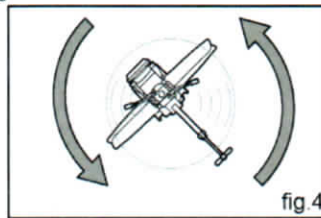
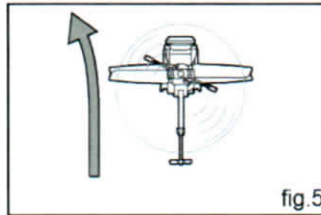
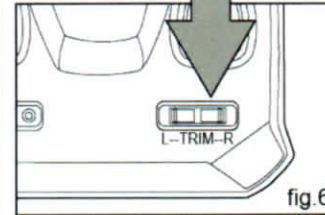

fig.4
fig.5
fig.6
- When the helicopter spirals (fig. 4) or keeps turning counter clockwise (fig. 5), press the right side of the yaw trim button ("R") repeatedly until the helicopter flies straight (fig. 6).